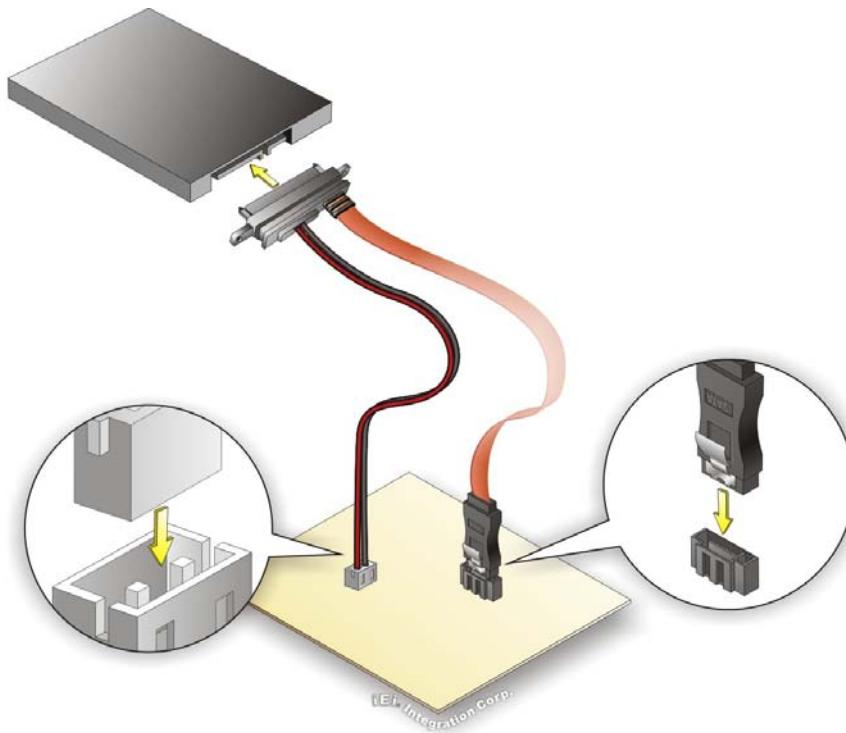

Figure 4-2: SATA Drive Cable Connection
Step 2: **Insert the cable connector.** Insert the cable connector into the on-board SATA drive connector and the SATA power connector. See **Figure 4-2**.
Step 3: Connect the cable to the SATA disk. Connect the connector on the other end of the cable to the connector at the back of the SATA drive. See **Figure 4-2**.